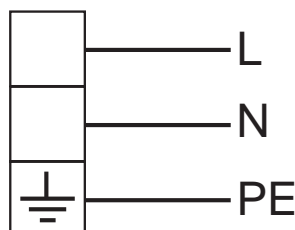

Fig. 2.3
- Connect the phase, neutral and earth wires to terminal board “G” according to the diagram in fig. 2.3.